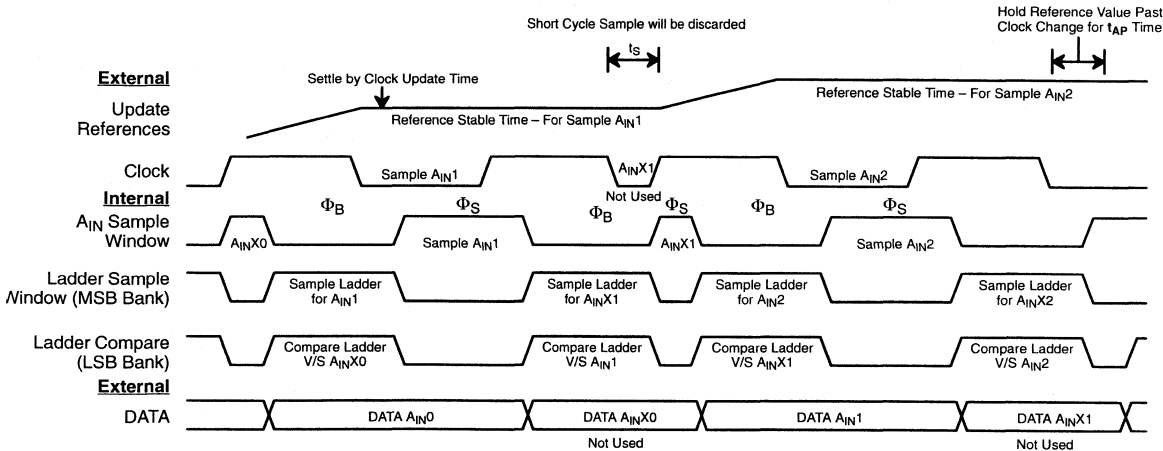
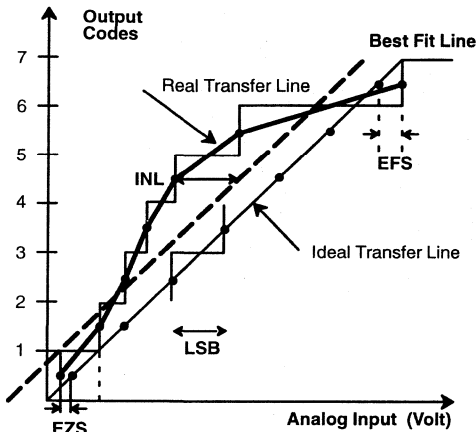

Figure 3. A_{IN} Sampling, Ladder Sampling & Conversion Timing
Figure 7. INL Error Calculation
- Tester measures code transition voltages by dithering the voltage of the analog input (V_{IN}). The difference between the measured code width and the ideal value (V_{REF}/1024) is the DNL error (see Figure 3). The INL error is the maximum distance (in LSBs) from the best fit line to any transition voltage (See Figure 7).
Figure 3. shows this relationship as a timing chart. A_{IN} sampling, ladder sampling and output data relationships are shown for the general case where the levels which drive the ladder need to change for each sampled A_{IN} time point. The ladder is referenced for both last A_{IN} sample and next A_{IN} sample at the same time. If the ladder's levels change by more than 1 LSB, one of the samples must be discarded. Also note that the clock low period for the discarded A_{IN} can be reduced to the minimum t_S time of 150 ns.
Figure 7. gives a visual definition of the INL error. The chart shows a 3-bit converter transfer curve with greatly exaggerated DNL errors to show the deviation of the real transfer curve from the ideal one.